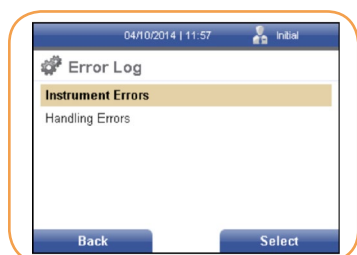

FIGURE 97
- Press the right soft key to select it. The Error Log screen is displayed (Figure 97).